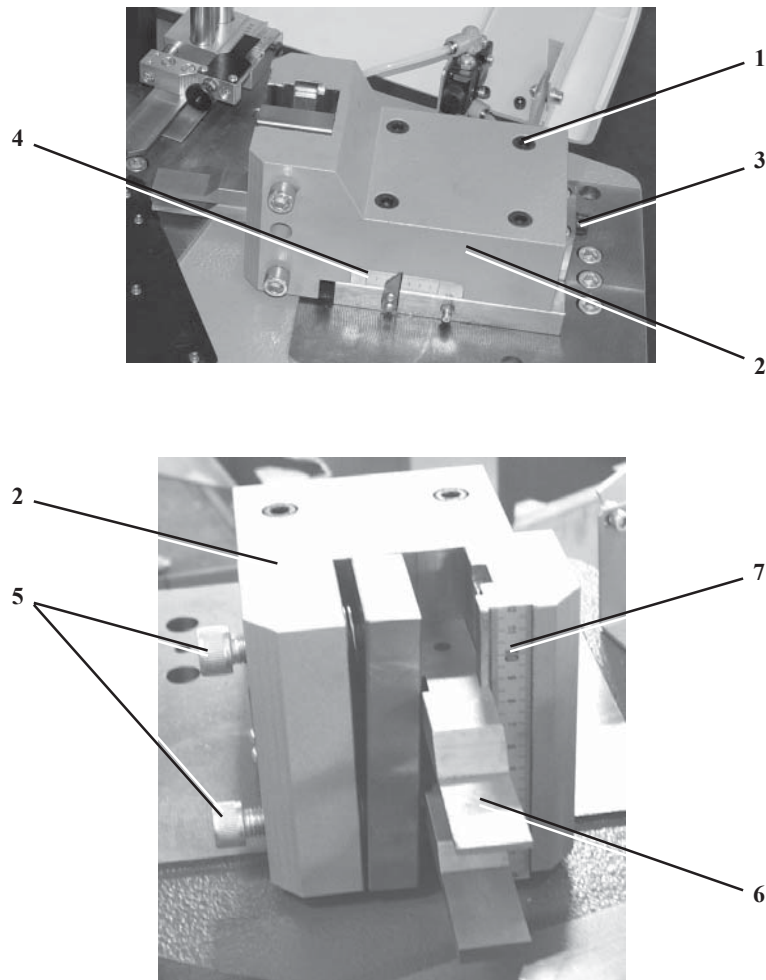

Fig. 5.6
- Loose four screws (1, fig. 5.6) on the crimping head (2) and adjust the position of head by swinging the screw (3) according to the crimping point of corner's chamber (dimension «d», fig. 5.7) where the reference forks will press.
- In particular the operator must move the head till he reads on the graduated scale (4, fig. 5.6) the measure that represents the value «d» (in mm).
- Once the position reached, tighten the screws (1).
- Loose two screws (5) and insert the knives (6) (one or two) into their holder.
- Measure the crimping height on the profile to be worked, then position them at the required height by means of the graduated scale (7); then tighten the screws (5).